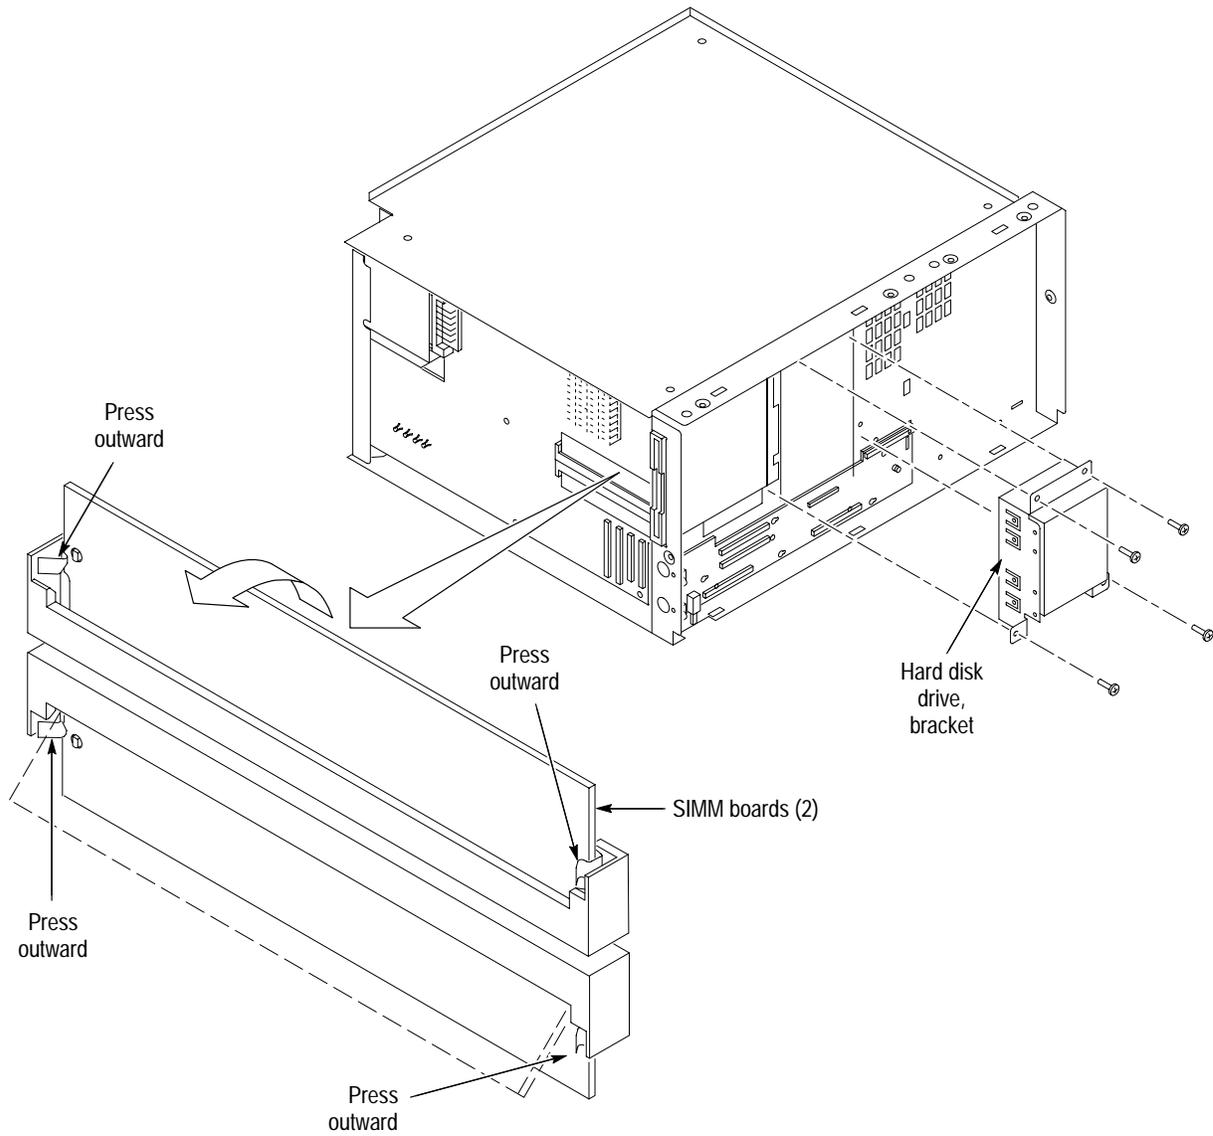

Figure 4: SIMM boards and hard disk drive replacement
3. Locate the SIMM boards in Figure 4 on page 11. Note that there are two SIMM boards, an upper and a lower.
1. Locate the hard disk drive in Figure 4 on page 11.